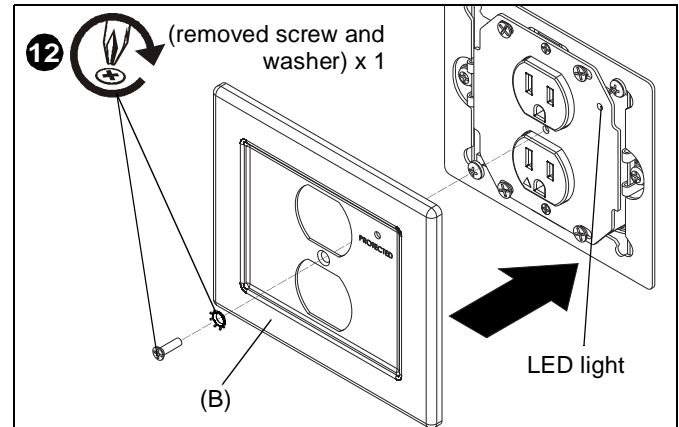

Figure 8
12. Install faceplate (B) onto EGX-SF2 using one Phillips flat head screw and locking washer removed in Step 11. (See Figure 8)
**NOTE:** Make sure LED light on outlet box lines up with hole location on faceplate (B). (See Figure 8)